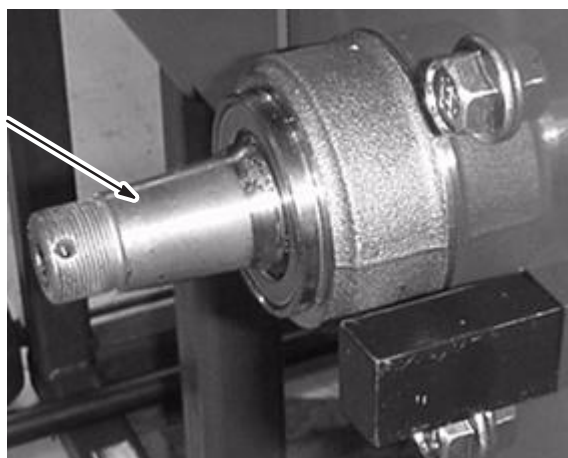

Figure 15
1. Thoroughly clean the rear drive shafts and the inside of the tapered bore of the wheel hubs with alcohol or degreaser (Fig. 15).